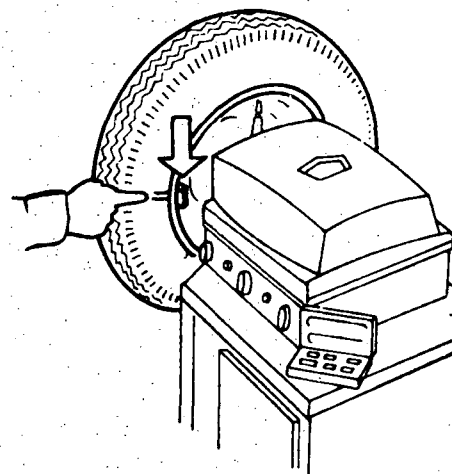

Fig. 7
- c) Tentatively select a magnetic weight and place it in the inside of the tyre where the chalk mark indicates, then turn the wheel 90° and observe if it maintains this position (fig. 7).